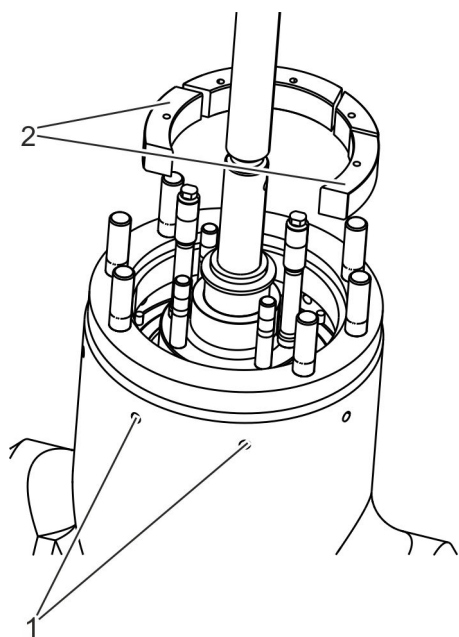

Fig. 28: Removing segments
3. ➤ Using the pin puncher, punch the segments (Fig. 28/2) into the interior and through the outer ejection bores (Fig. 28/1).
4. ➤ Remove the segments (Fig. 28/2).